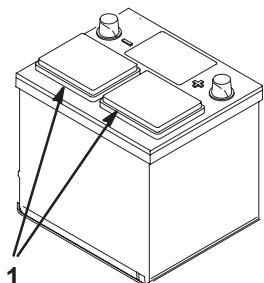

Figure 17
- Clean the top of the battery and remove the vent caps (Fig. 17).